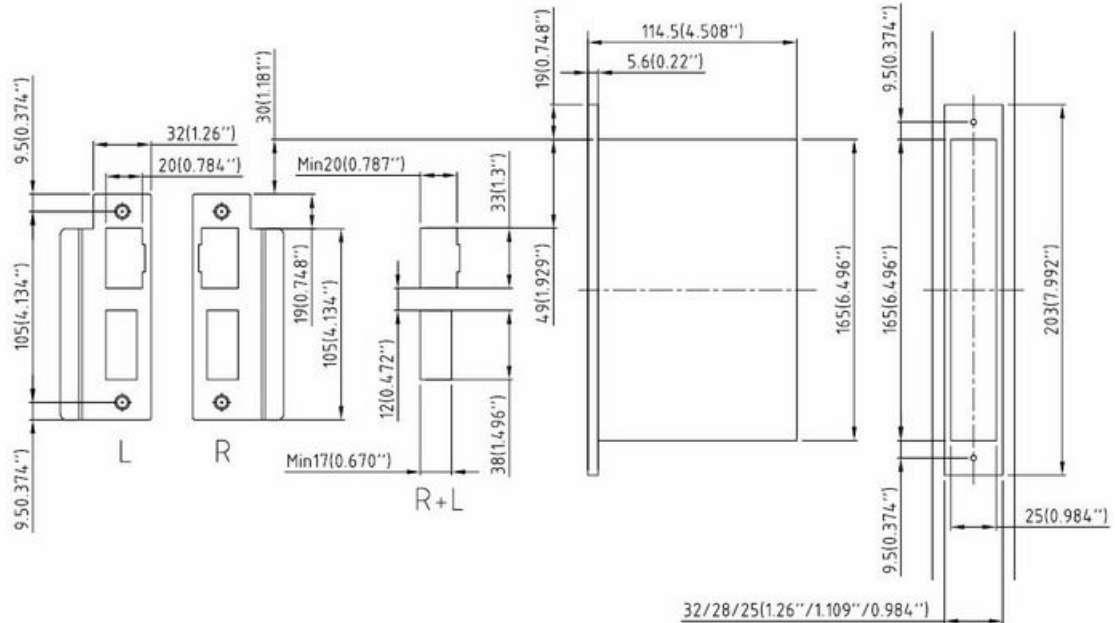

Figure C3: Striker plate and cut-out
When installing or upgrade to ANSI DB ADB lock case, the external striker plate must be installed as shown in Figure C3; dimensions in mm (inches).
2. Place the ADB striker plate in the frame as shown in Figure C3, 49 mm (1 30/32") below the top of the lock front (30mm + 19mm, i.e. 3/4"+1 3/16").